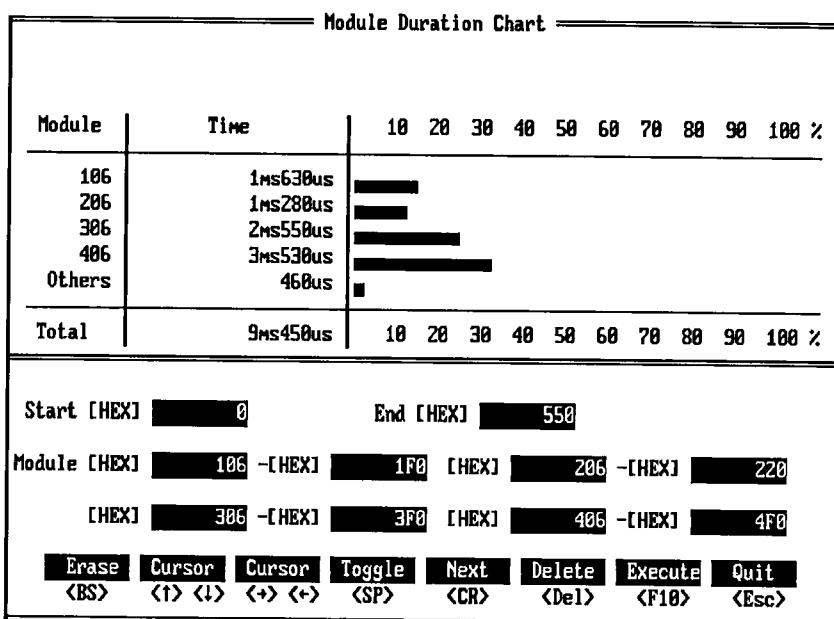

Figure 5-68 Module Duration Chart
1. Performed Module Duration Analysis (Section 5.2.8.2). The result as projected in Figure 5-68, was:
The Module Duration Chart (Figure 5-68) has two sections, the "entry" (bottom) section and the "bar graph" (top) section. All data required for the duration analysis are input in the entry fields provided in the "entry" section, where-